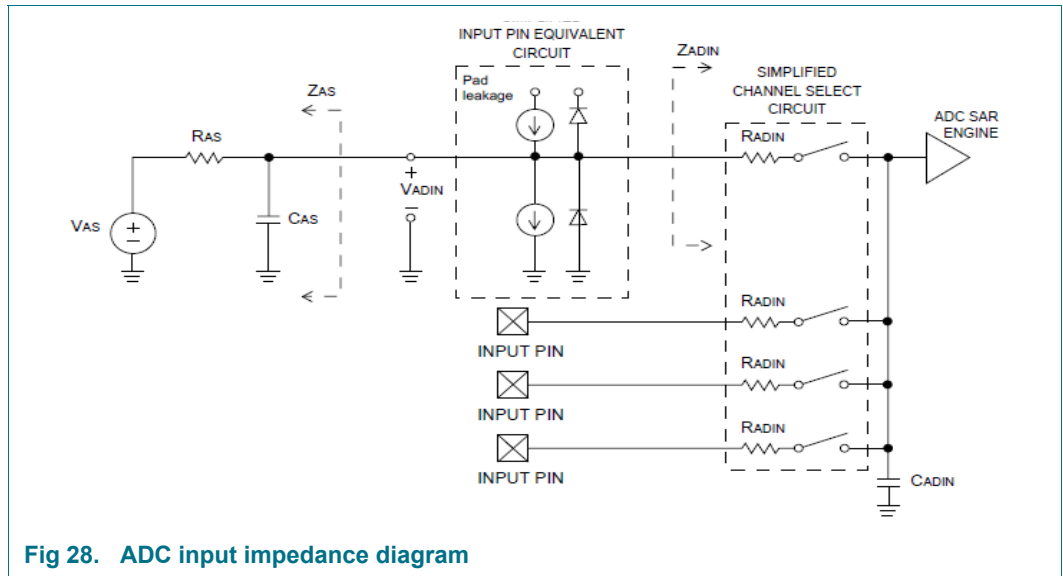

Fig 28. ADC input impedance diagram
- [3] CADIN represents the external capacitance on the analog input channel for sampling speeds of 1.0 Msamples/s. No parasitic capacitances included. See Figure 28
- [8] This resistance is external to the MCU. To achieve the best results, the analog source resistance must be kept as low possible. The results in this data sheet were derived from a system that had $< 15\text{ }\Omega$ analog source resistance. See Figure 28.